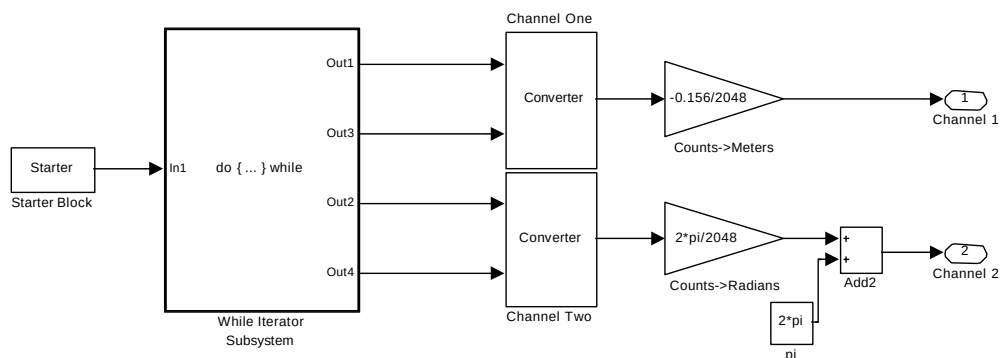

Figure 26 Feedback Encoder Block - Look Under Mask
- Choose “Look under Mask” to see the subsystems (Figure 26).